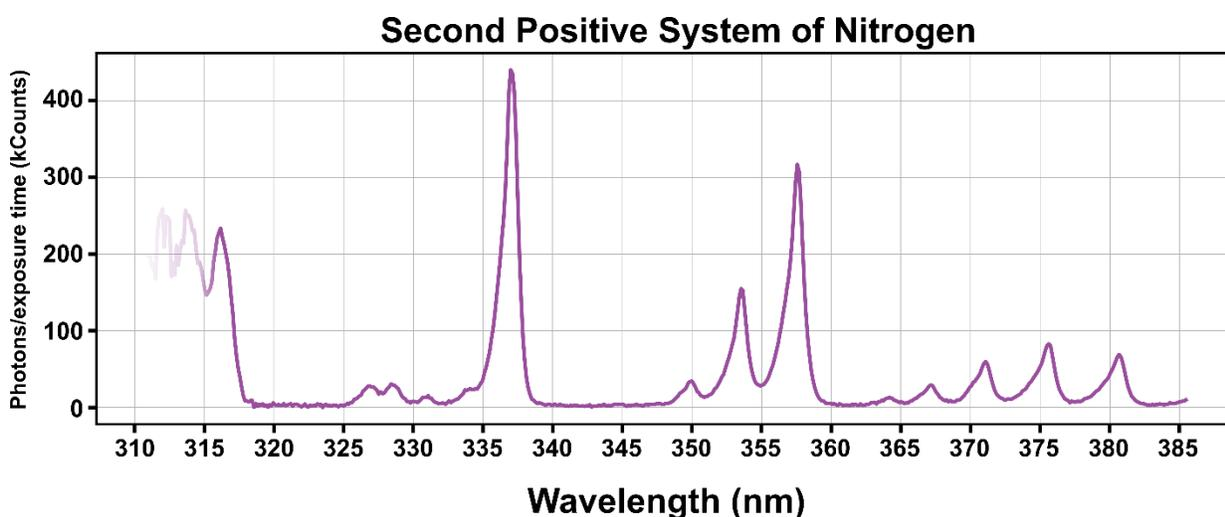

Figure 9 -- Rescaled spectrum of the second positive system of Nitrogen.
- 2) **Normalize for optical efficiency:** This can be done by dividing the total optical efficiency per wavelength of your optical elements by the number of photons per wavelength (irradiance) calculated in the first step. The purpose of this step is rescale the peaks based on true optical output from the source – for example, if you expect a very strong OH radical peak at 309.2 nm but your optics will only allow 5% of the light through at that wavelength, what you observe would be rather small compared to other spectral properties of other atomic interactions within the system. An important note is that **this normalization only produces valid data when your signal is appreciably greater than your noise**, i.e. high signal-to-noise ratio (SNR). When the signal is on the order of the noise, your rescaling will amplify the noise significantly as we see in Figure 9 towards the left-hand side when barely any light below 310 nm reaches the sensor.
Figure 9 shows the resultant scaling of the y-axis. Note that since the optical efficiency is generally the same down to 350 nm (Figure 8), the spectral features remain in similar proportions for the C-triplet and D-quartet. Below 350 nm, the spectral features are rescaled to greater values, since fewer photons at those wavelengths reached the sensor. Note, specifically, that B is scaled to be greater than C3 now and A is scaled to be much larger than it was initially. Yet, once we move deeper into the UV, our SNR is too low as practically no light within this wavelength range reaches the sensor and our rescaling amplifies the noise significantly.